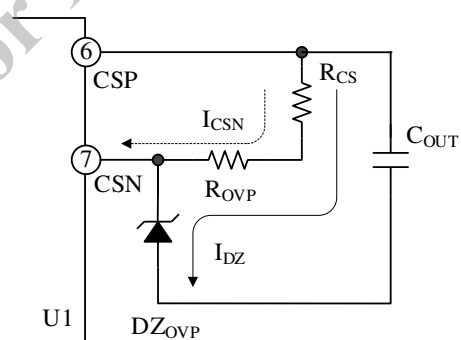

Figure 9-10 LED Open
When the LED is open and the voltage between the CSP and CSN pins exceeds the value of the equation (4) due to the flowing of the current, I_{DZ} , as shown in Figure 9-10, the Overvoltage Protection (OVP) operates and the IC stops oscillating. When the voltage between the CSP